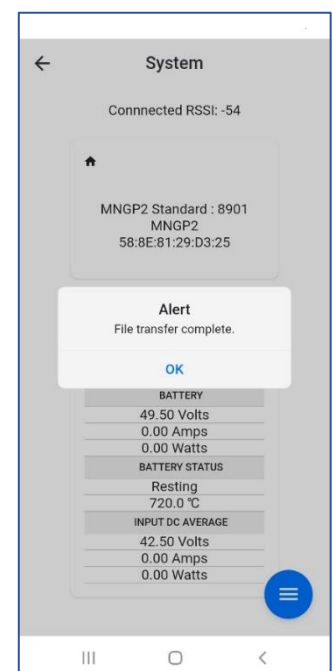

Figure 25
10. FW app will indicate when done, **Figure 25**. Select OK.